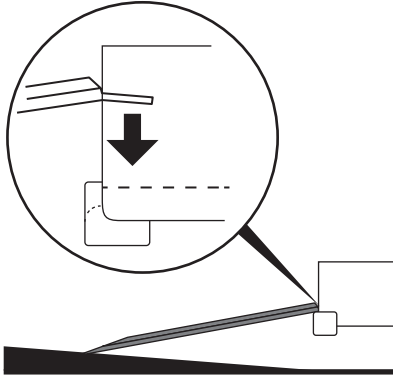

Figure 3-12
4. Place the ramp fingers or plate edges on the edge of the trailer or truck bed. See Figure 3-12.